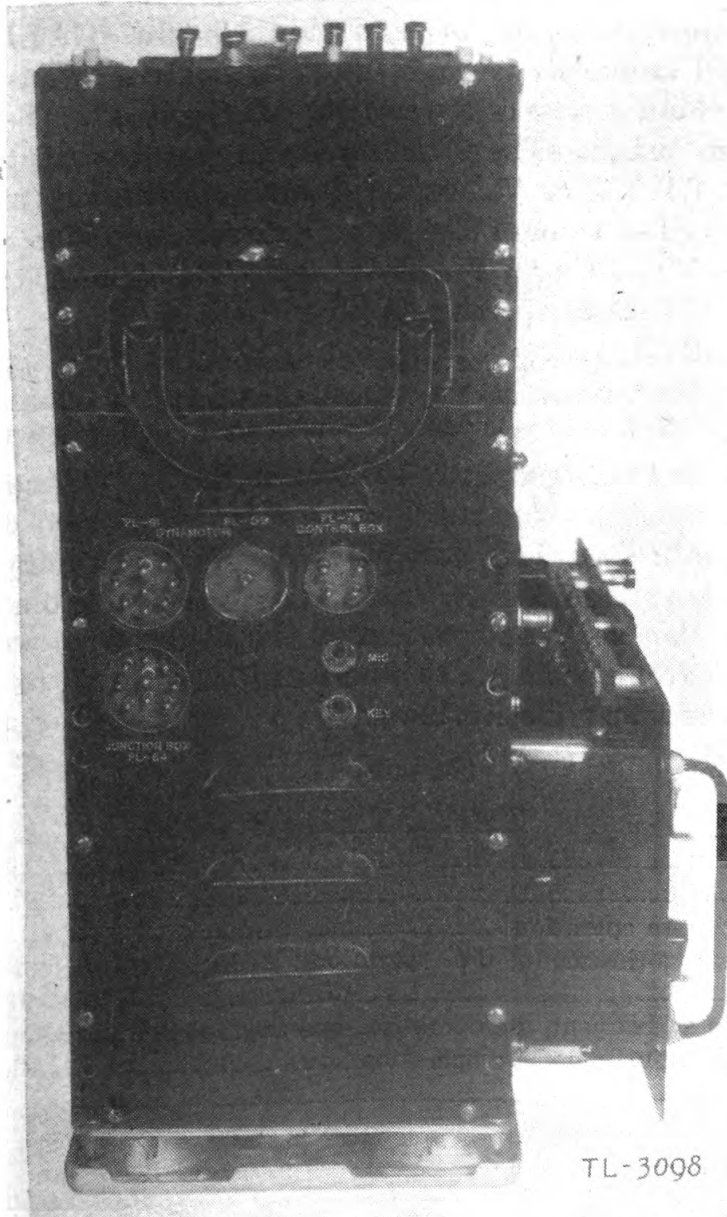

FIGURE 2.—Radio transmitter BC-191-(*) with transmitter tuning unit partially inserted, showing one set of sockets and jacks—left end view.
h. Sockets and jacks for making cording connections to power and control components are provided in duplicate, one set on the bottom (fig. 22), the other on the left side of the transmitter (fig 2). The physical location of components of a radio set determines which set